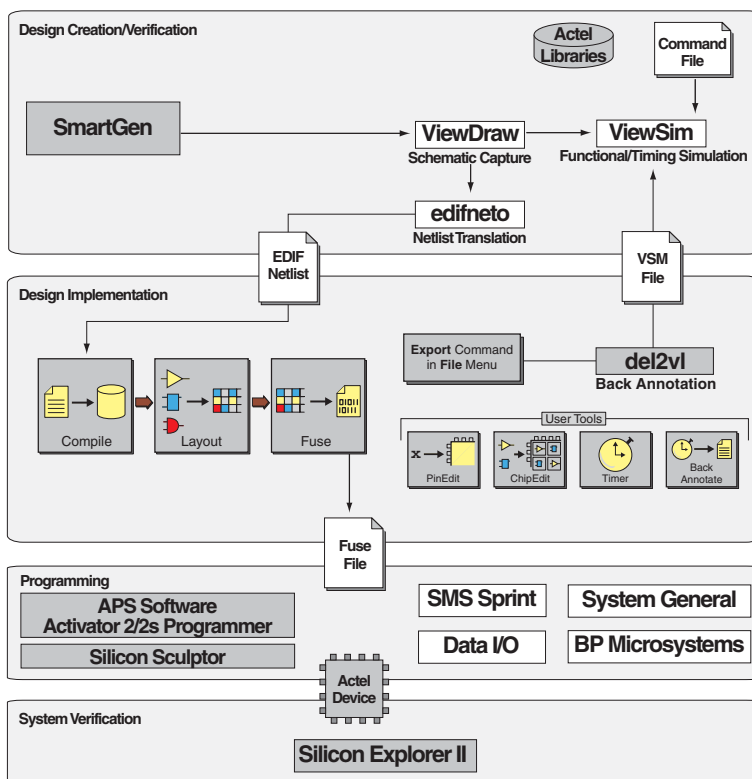

Figure 2-2. Actel-Innoveda Schematic-Based Design Flow
Figure 2-2 shows the schematic-based design flow for creating an Actel device using the Powerview and Designer Series software¹.
1. The grey boxes in Figure 2-2 denote Actel-specific utilities/tools.